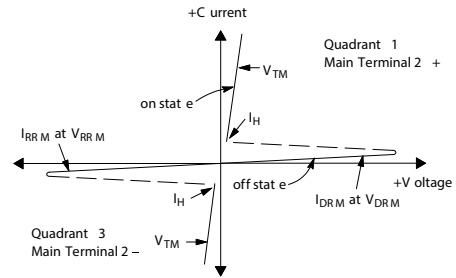

Figure 1. Peak Capacitor Discharge Current
- Ratings apply for $t_w = 1$ ms. See Figure 1 for I_{TM} capability for various duration of an exponentially decaying current waveform, t_w is defined as 5 time constants of an exponentially decaying current pulse.
- Ratings apply for $t_w = 1 \text{ ms}$. See Figure 1 for I_{TM} capability for various durations of an exponentially decaying current waveform. t_w is defined as 5 time constants of an exponentially decaying current pulse.